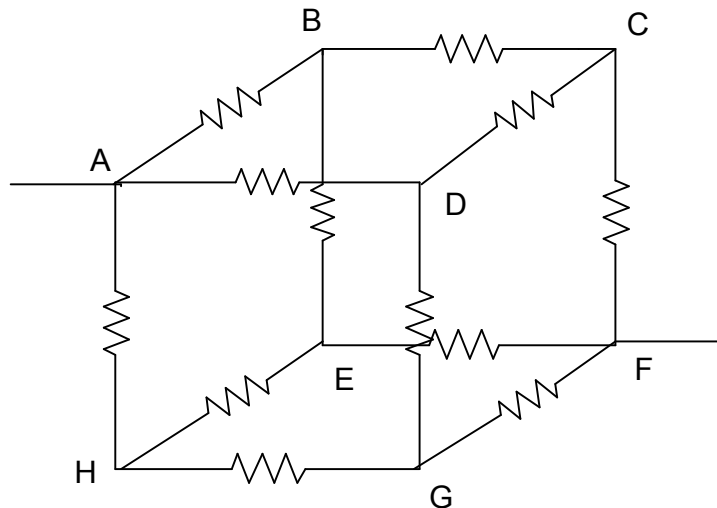

Figure 6
17. Build the circuit in figure 6 on the breadboard. Make all resistor values 1k. As mentioned in the prelab, this circuit should be constructed in a neat and orderly fashion using only the resistors and no extra wires. (Hint: node A and F are the voltage source and